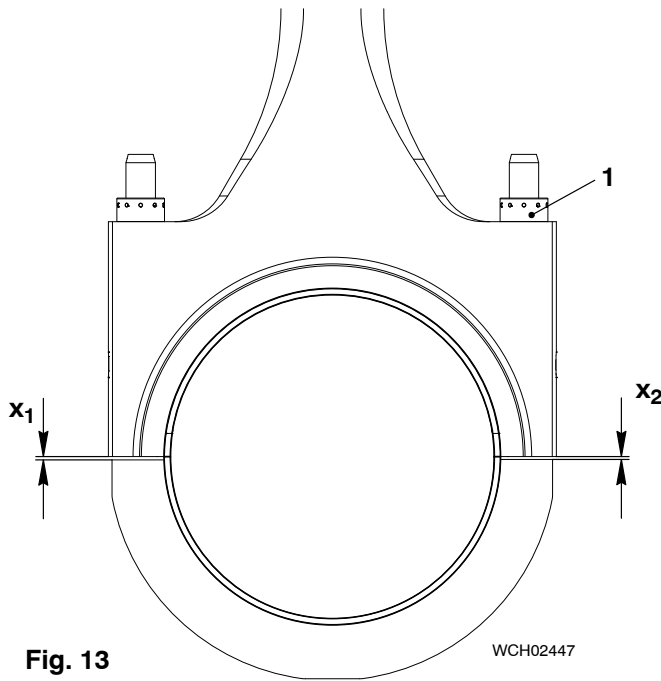

Fig. 13
- 10) Put the elastic studs (1, Fig. 13) on the elastic studs.
- 11) Use a round bar to tighten equally the elastic studs (1).